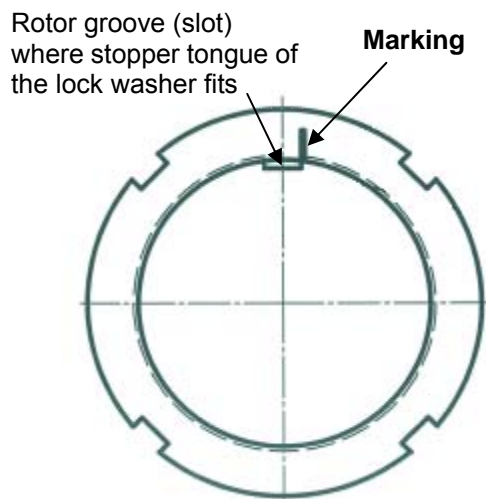

Figure 7-8 Position where mark is put
- b) Put a mark on the lock nut at the right side edge of the rotor groove where the stopper tongue of the lock washer fits in, as shown in Figure 7-8.